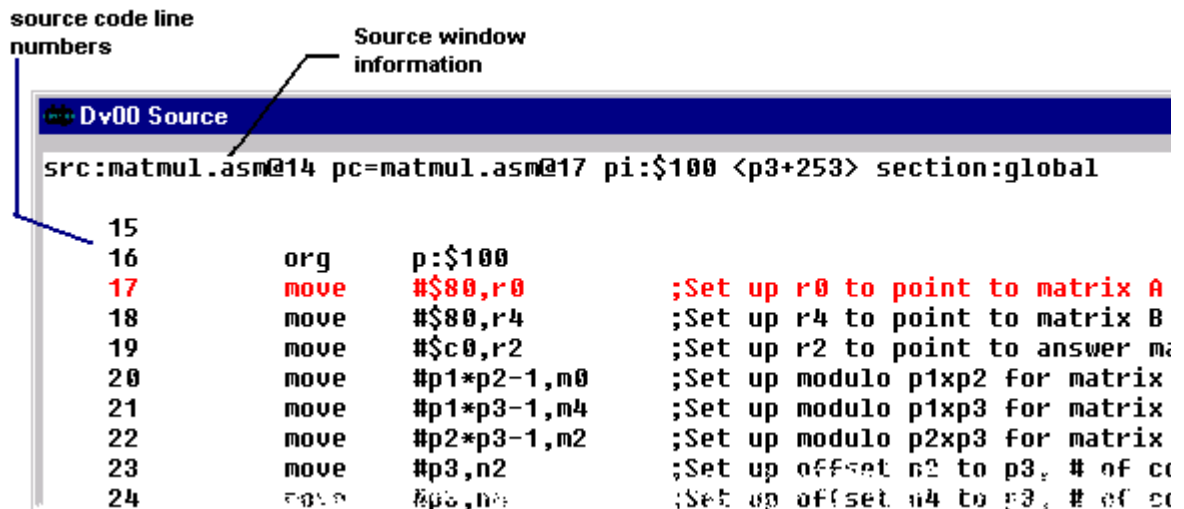

Figure 12-6. Source Window
1. From the **Windows** menu, choose **Source**. The Source window indicates the current program counter (PC) and highlights the corresponding source line in red. See Figure 12-6.